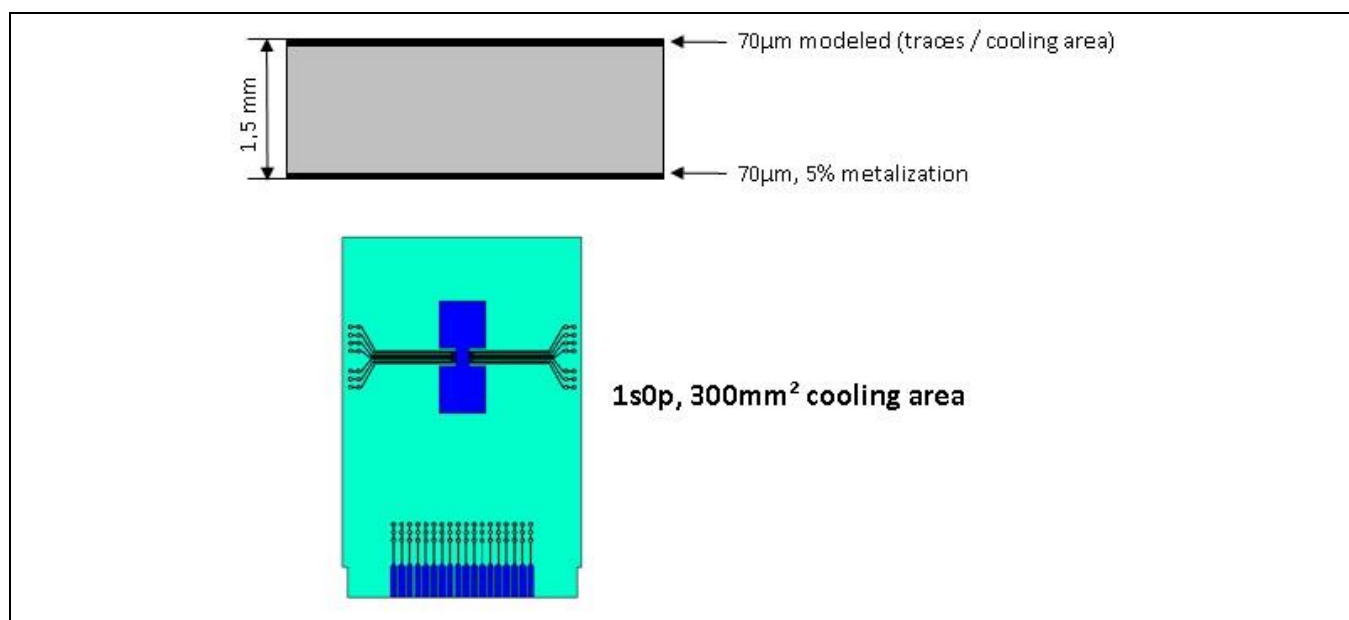

Figure 57 JE5D51 1s0p PCB configuration
- Junction to Ambient 1s0p: See Figure 57. This is the case where the PCB consists of a single layer of 70µm copper, and the device exposed pad is thermally connected to 300mm² of cooling area.